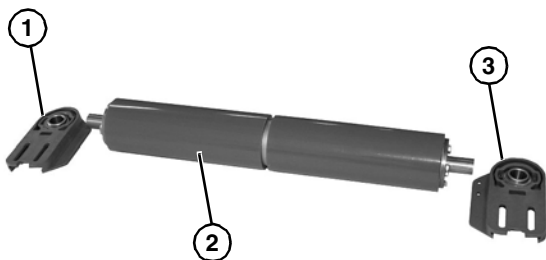

Figure 65
6. Slide the head plate with bearing (Figure 65, item 1) off the shaft (Figure 65, item 2).
7. Repeat for opposite side head plate (Figure 65, item 3).